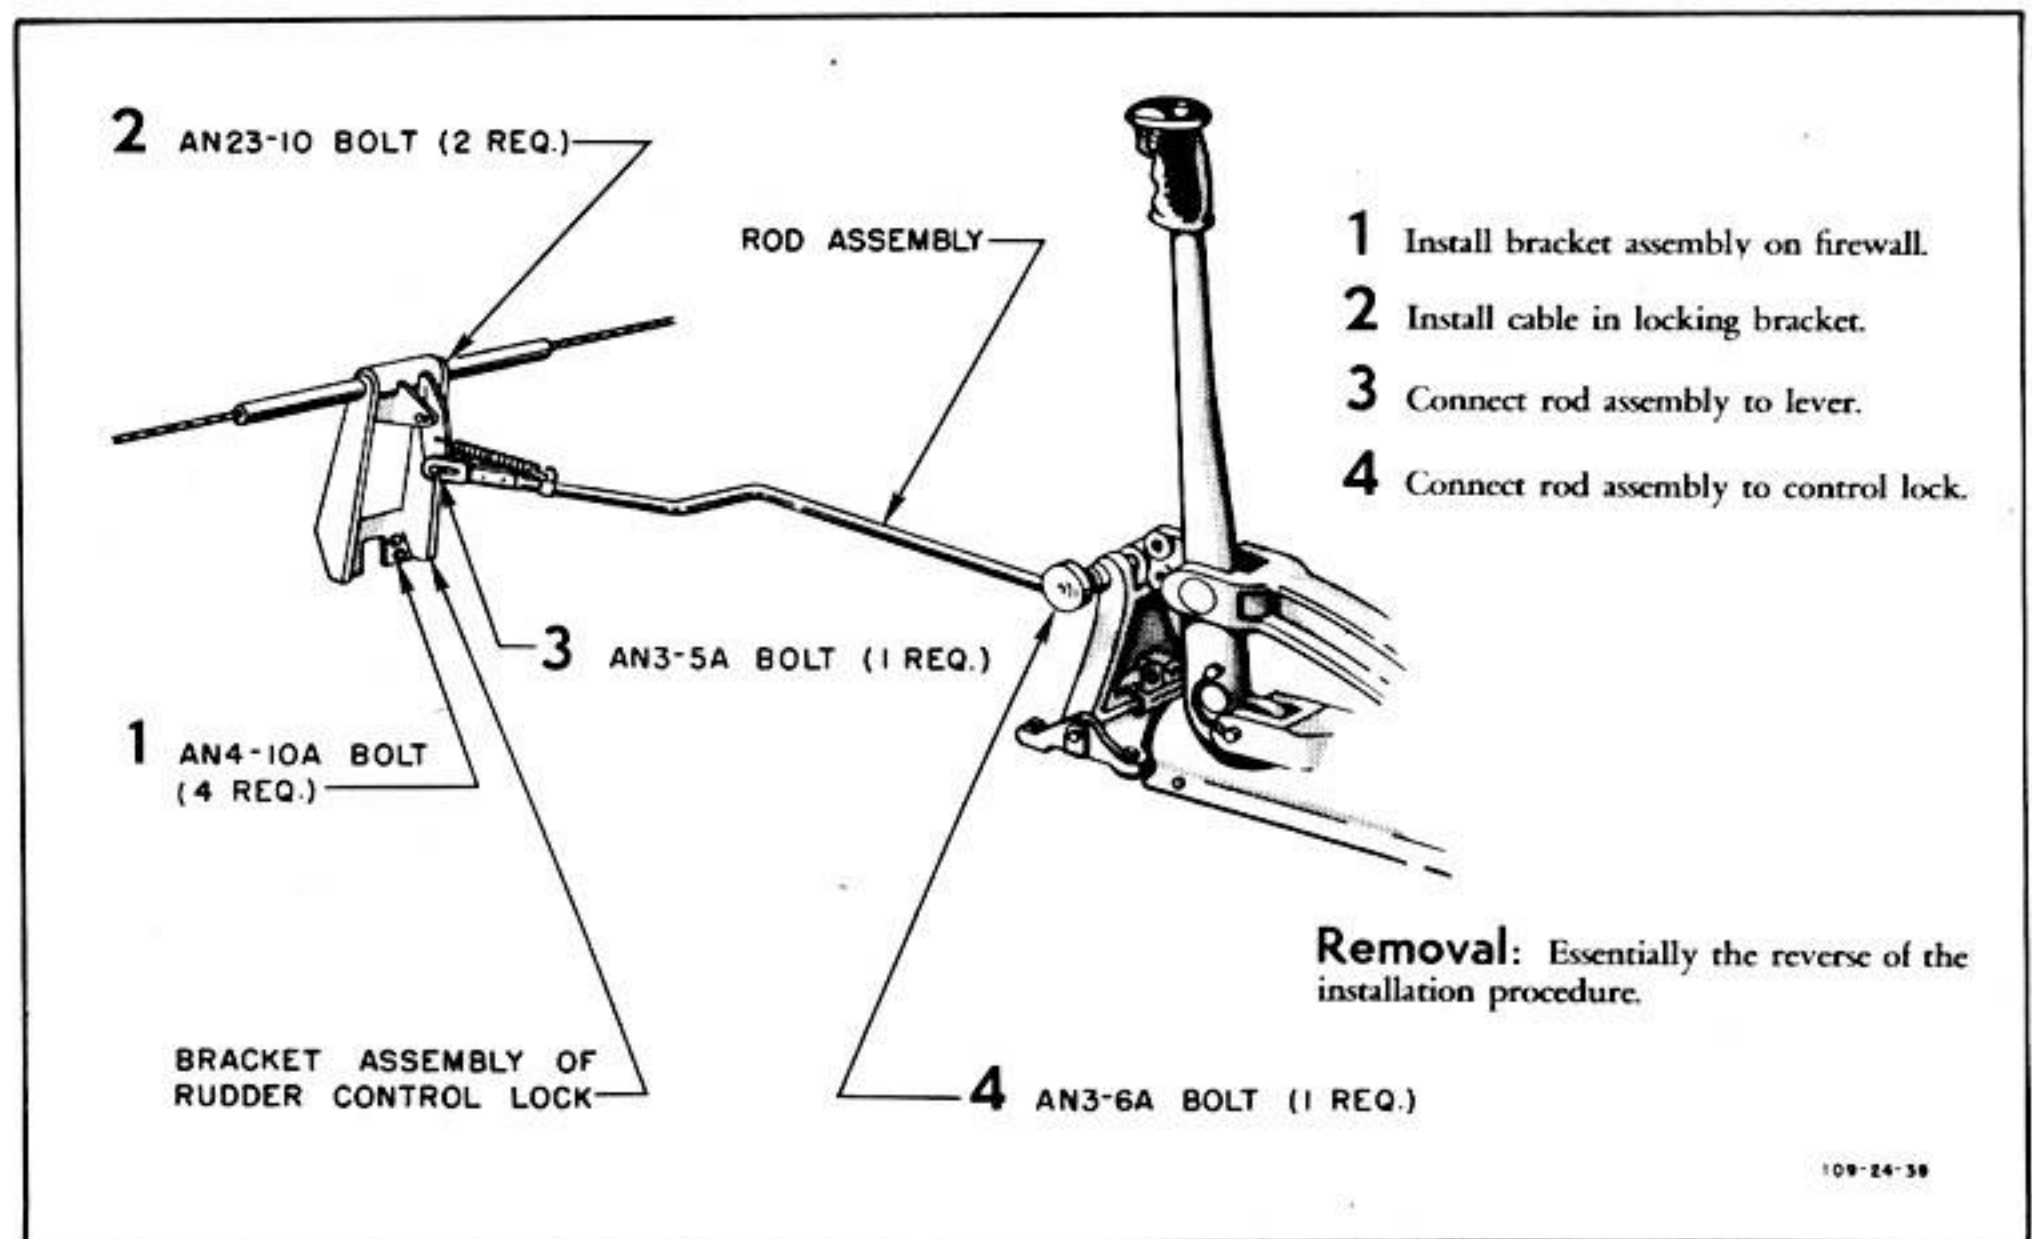

Figure 100—Rudder Locking Mechanism
g. INSTALLATION, REMOVAL, AND ADJUSTMENT OF CONTROL STICK AND SURFACE CONTROL LOCK ASSEMBLY. (See figures 100 and 101.)